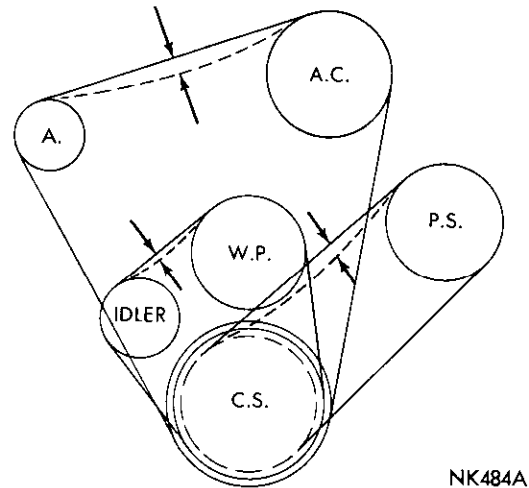

Fig. 8—Pressure Testing Cooling System
(2) Attach the Tester Tool C-4080 to the radiator, as shown in (Fig. 8) and apply 15 pounds pressure. If the pressure drops inspect all points for external leaks.
(3) If there are no external leaks, after the gauge dial shows a drop in pressure, detach the tester, start engine and run the engine to operating temperature in order to open the thermostat and allow the coolant to expand. Reattach the tester and pump to 7 lbs. pressure while the engine is running. Race the engine, and if the needle on the dial fluctuates it indicates a combustion leak, usually a head gasket.